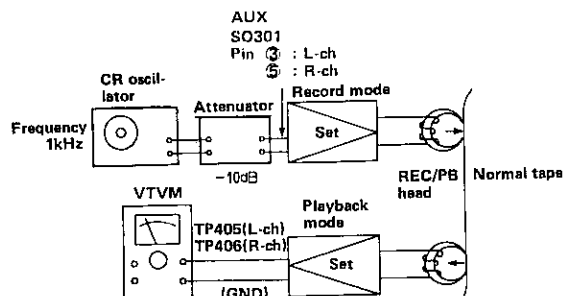

Figure 17-5
- Make connection of instruments as shown in Fig. 17-5, adjust variable resistor VR305, VR306, VR203 or VR204 so that the record/playback sensitivity is as shown in Table 17-4.